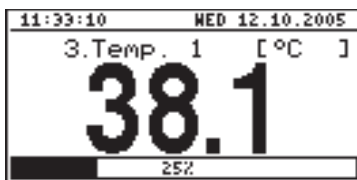

Fig. 6.6. "Single channel" mode
- "Single channel" mode (Fig. 6.6) enables the last measurement for one of the measurement channels to be viewed in the numeric and graphic form (bar).